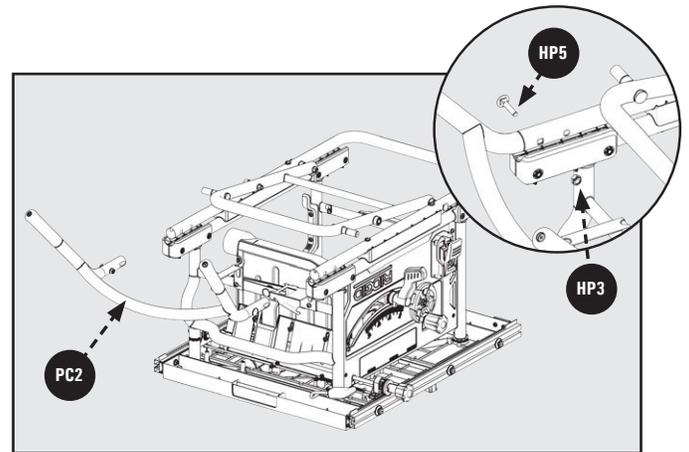

Figure 6
5. With Table saw still in Lower Packing Tray, attach Stand Handle (PC2) to Tubular Base of Saw with M8x35mm Carriage Screw (HP5) and M8 Locknut (HP3). See Figure 6.